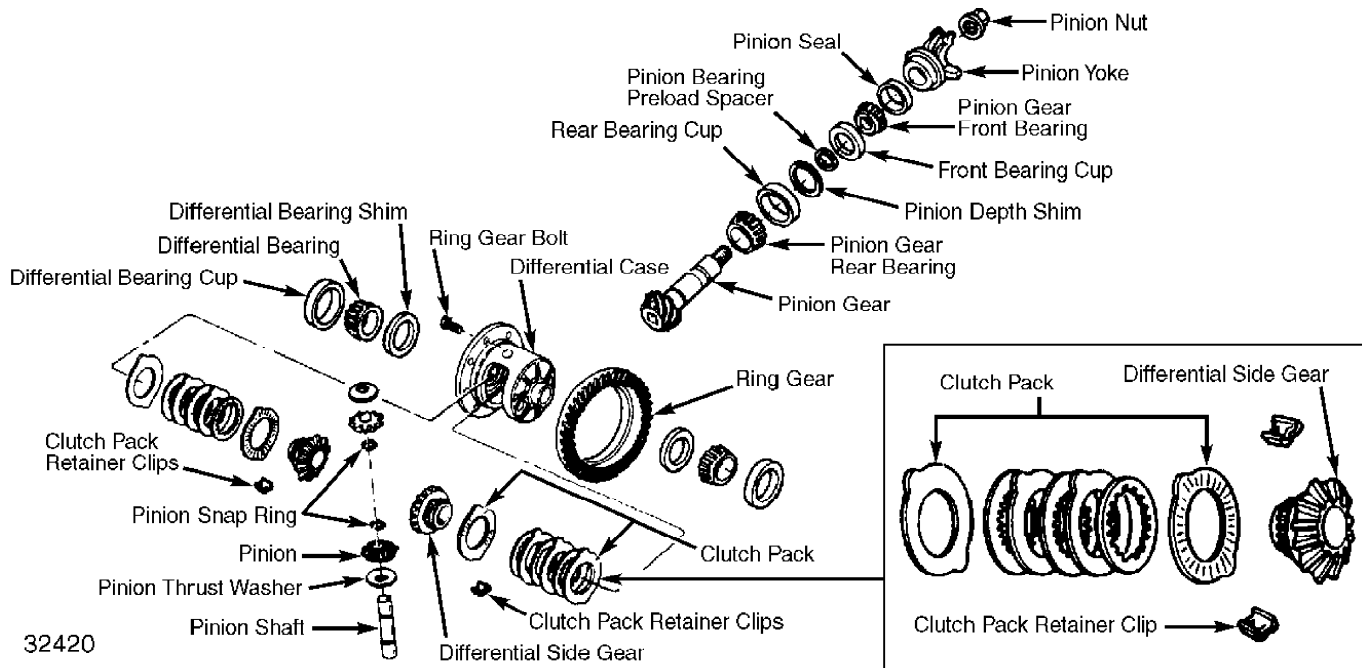

Fig. 1: Exploded View Of Trac-Lok Differential
1) Using 2 screwdrivers, remove pinion snap rings. Using a brass drift and a hammer, remove pinion shaft from case. See Fig. 1. Install Step Plate (C-4487-1) in side gear. Grease centering hole of step plate. Position Gear Rotator (C-4487-4) in pinion shaft hole. Coat threads of Forcing Screw (C-4487-2) with oil.